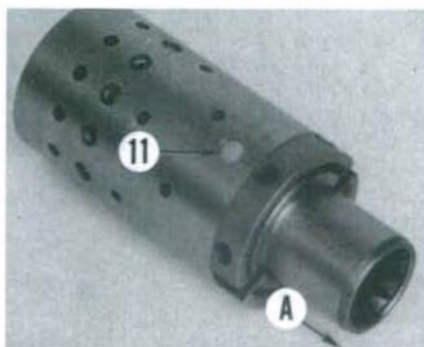
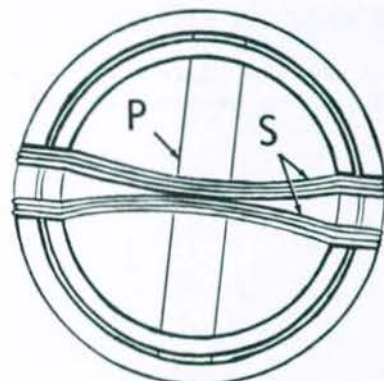
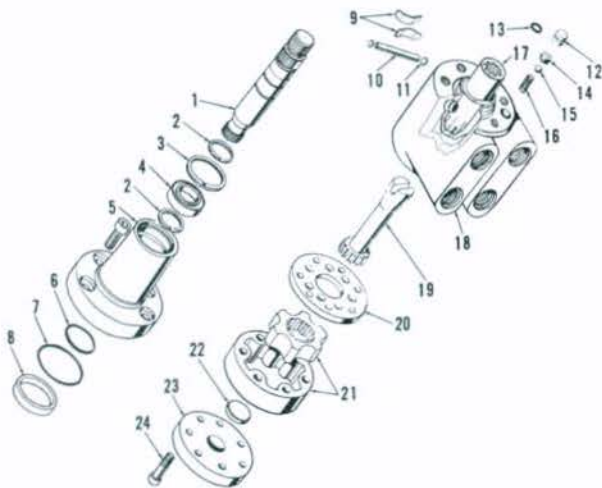

Fig. 25—View of control spool end sleeve assembly. Teflon discs (11) cover outer ends of internal pin. Withdraw spool from sleeve in direction of arrow (A).
Fig. 25A—Schematic end view of steering control sleeve and spool showing correct assembly of centering springs (S) and drive pin (P).
Fig. 24—Exploded view of Char-Lynn Orbitrol hydrostatic steering hand pump used on MF235 and MF245 Orchard models.
spool (17—Fig. 24) and housing (18) are available as a matched set only.
To disassemble the removed unit, first remove cap screws (24) and withdraw end plate (23), gear set (21), spacer (20) and drive link (19) as a unit. Unbolt and remove upper housing (5) and input shaft (1) as a unit. Withdraw the control spool and sleeve (17) as a unit from bottom end of housing. Remove Teflon discs (11), then push pin (10) and centering springs (9) out of sleeve. Carefully slide spool (splined end first) from sleeve (Fig. 25). Insert a bent wire through port in valve body and push plug (12—Fig. 24) from body, then remove check valve seat (14) using an Allen wrench. Remove check ball (15) and spring (16).
When assembling the unit, tighten check valve seat (14) to a torque of 17 N·m (150 in.-lbs.). Assemble spool in sleeve making sure spool rotates smoothly in sleeve. Align spring slots in spool and sleeve, then insert centering springs (two sets of three each) so arched center sections are together as shown in Fig. 25A. Insert pin (10—Fig. 24) into spool and sleeve assembly and install a Teflon disc (11) at each end of pin.
Be sure pin slot in drive shaft (Fig. 26) is aligned with a valley of inner rotor to ensure correct timing of control sleeve. If drive slot is improperly aligned, steering unit will operate in reverse or "kick back" when hydraulic pressure is applied. Assemble drive link (19—Fig. 24), spacer (20), gear set (21) and spacer (22) onto valve body. Note that spacer (22) should be flush with outer surface of gears if drive link is properly engaged with control spool pin. Install end cover (23) and tighten retaining cap screws evenly to 17 N·m (150 in.-lbs.) torque.